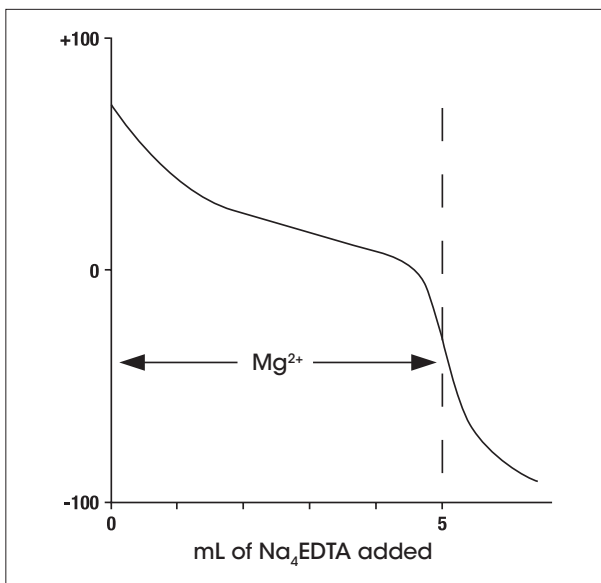

Figure 4 – Titration of 100 mL of 10^{-3} mol/L Mg^{2+} (CuEDTA indicator added to sample)
4. Perform an equivalence point titration using a standard EQP (equivalence point) titration method template available in the Tx Excellence and G20 Compact titrators. The EQP of the titration is the point of the greatest slope (inflection point). See **Figure 4**.